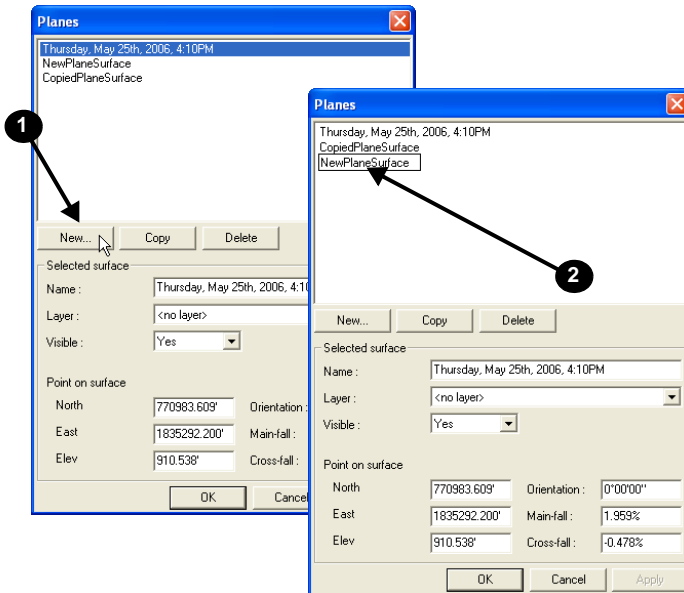

Figure 7-8. Create a New Plane Surface
1. Click **Plane ► Planes** and click **New** (Figure 7-8 on page 7-8).
2. Type a name for the copied plane surface and press **Enter** (Figure 7-8 on page 7-8). If needed, click-pause-click a plane surface name to rename a plane surface.